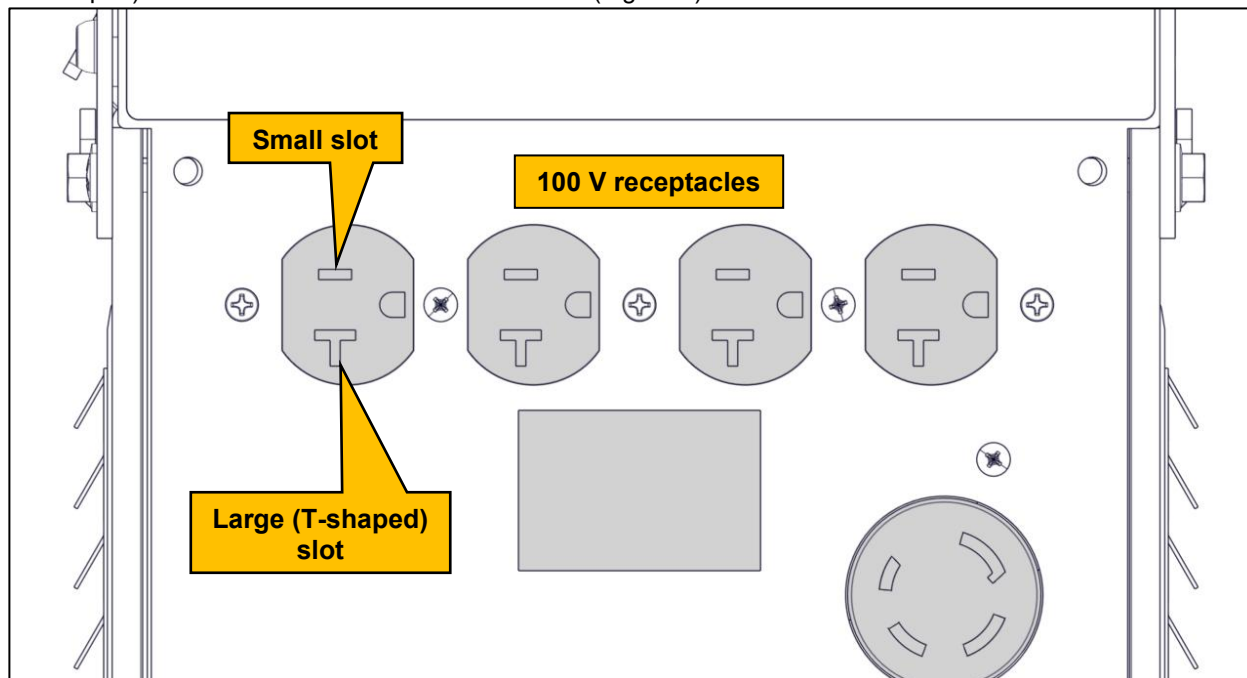

Figure 3
- ☐ Using a multimeter, measure the voltage at the 100 V ac receptacles between the small slot and large (T-shaped) slot in each of the four 100 V ac outlets (Figure 3).